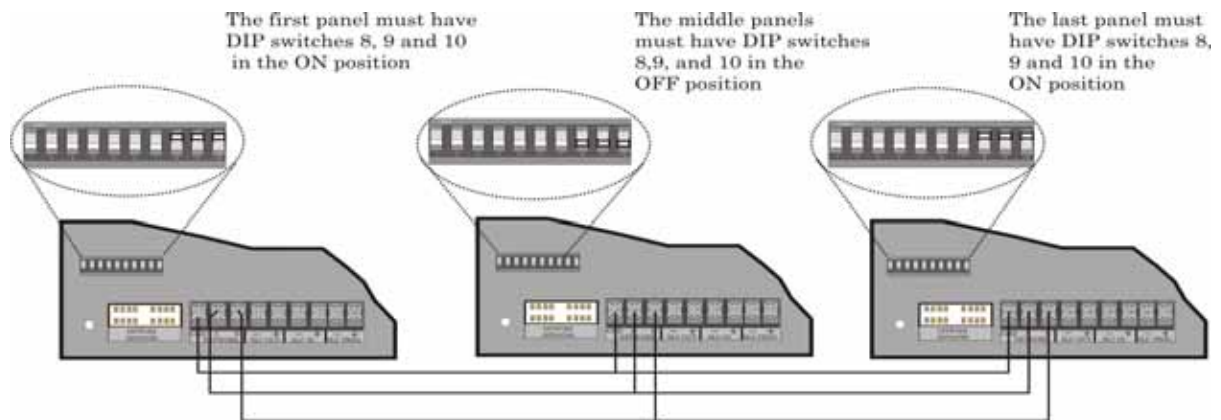

Figure 5-2 DIP Switch terminations settings for Direct Connect Wiring option
2. Make the network wiring connections. The cable used must be shielded twisted pair 18 gauge or larger wire. See Figure 5-2 for the DIP switch termination settings for Direct Connect wire option. Run one of the twisted pair wires from the NETWORK A terminal on one panel to the NETWORK A terminal on the next panel. Use the other wire of the twisted pair to connect the NETWORK B terminals together. Run the network ground connection using the twisted pair shield between the NETWORK GND terminal on both panels. Repeat this for each additional panel until all A, B and GND terminals are wired together as a BUS.
3. Configure the network terminators. The panels at both ends of the network bus must have DIP switches 8, 9, and 10 set to the “ON” position. All panels that are not at the BUS ends must have the terminators set to the OFF position. See Figure 5-2